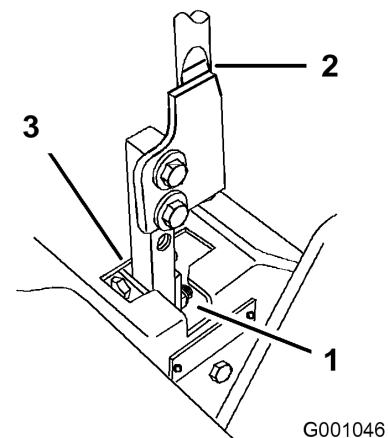

Figure 62
5. Move the lever to the neutral position but not locked (Figure 62).
6. Pull the lever back until the clevis pin (on arm below pivot shaft) contacts the end of the slot (just beginning to put pressure on the spring) (Figure 62).
7. Check where the control lever is relative to notch in console (Figure 62). It should be centered allowing lever to pivot outward to the neutral lock position.